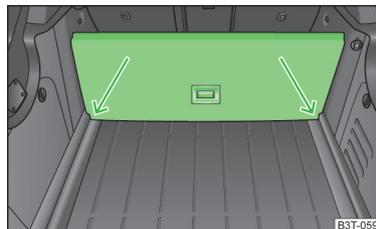

Fig. 111
- Lift up the part with the mounting and secure it by sliding it into the grooves marked with the arrows » Fig. 111.